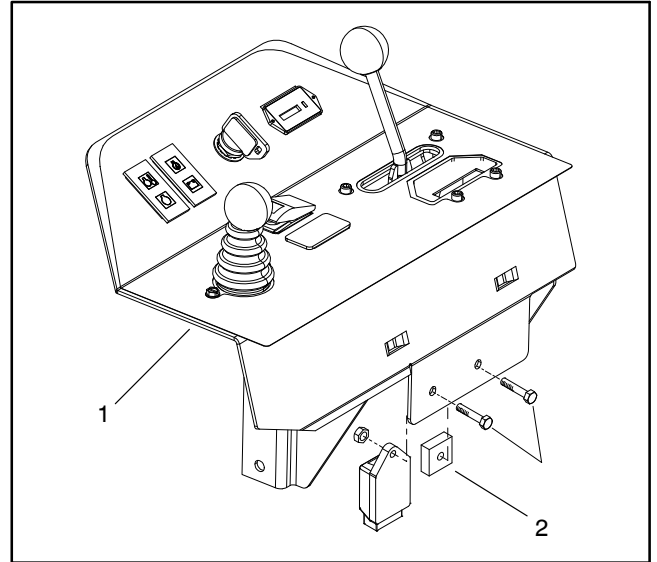

Figure 13
The lower reels time delay is a solid state timer. Upon the application of power, the load is energized and the time delay is started. After six (6) seconds the load is de-energized. The time delay is attached to a bracket under the control console (Fig. 13).